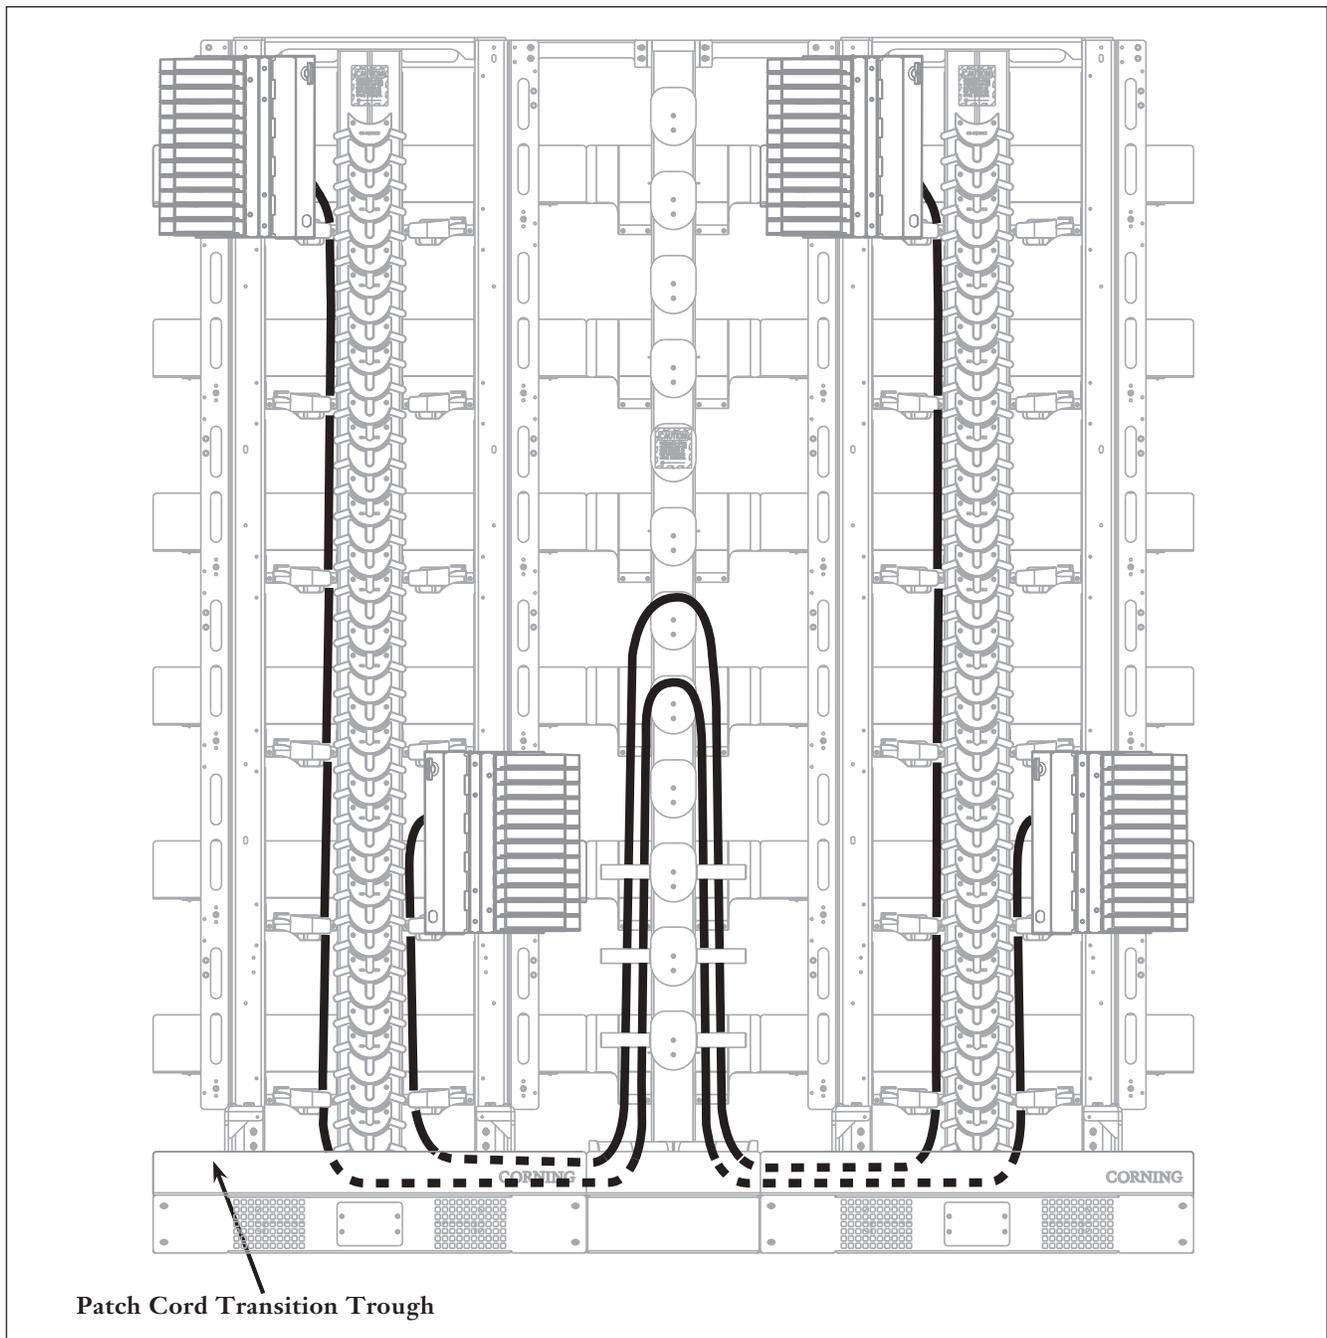

Figure 23 — Multiple frame patch cord storage in an Interbay Storage Device
- Patch cord may also be stored in the optional Interbay Fiber Manager mounted between frames. Route the patch cord as shown in Figure 23.